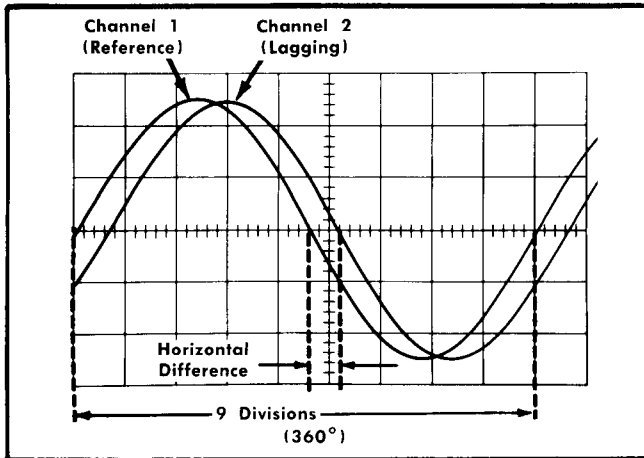
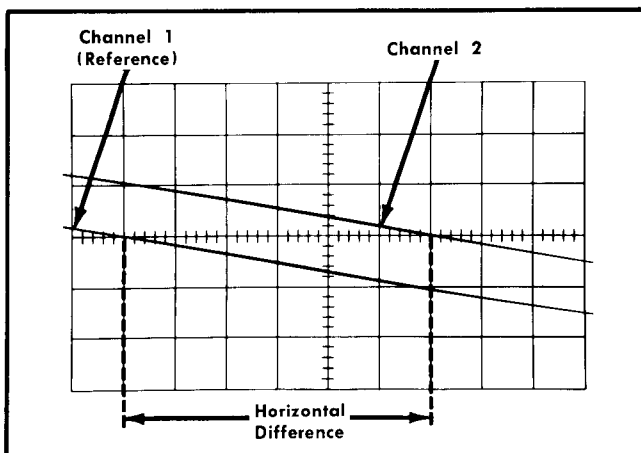

Fig. 2-22. Measuring phase difference.
Fig. 2-23. Accurate phase-difference measurement with increased sweep rate.
10. Turn the A VARIABLE control until 1 cycle of the reference signal (Channel 1) occupies exactly 9 divisions horizontally (see Fig. 2-22). Each division of the graticule represents 40° of the cycle ($360^\circ \div 9 \text{ divisions} = 40^\circ/\text{division}$). This is the phase factor.
Example. Assume a horizontal difference of 0.6 divisions with a phase factor of 40° as shown in Fig. 2-22.
Example. If the sweep rate were increased 10 times with the magnifier, the adjusted phase factor would be $40^\circ \div 10 = 4^\circ/\text{division}$. Fig. 2-23 shows the same signals as used in Fig. 2-22 but with the MAG switch set to $\times 10$. With a horizontal difference of 6 divisions, the phase difference would be: